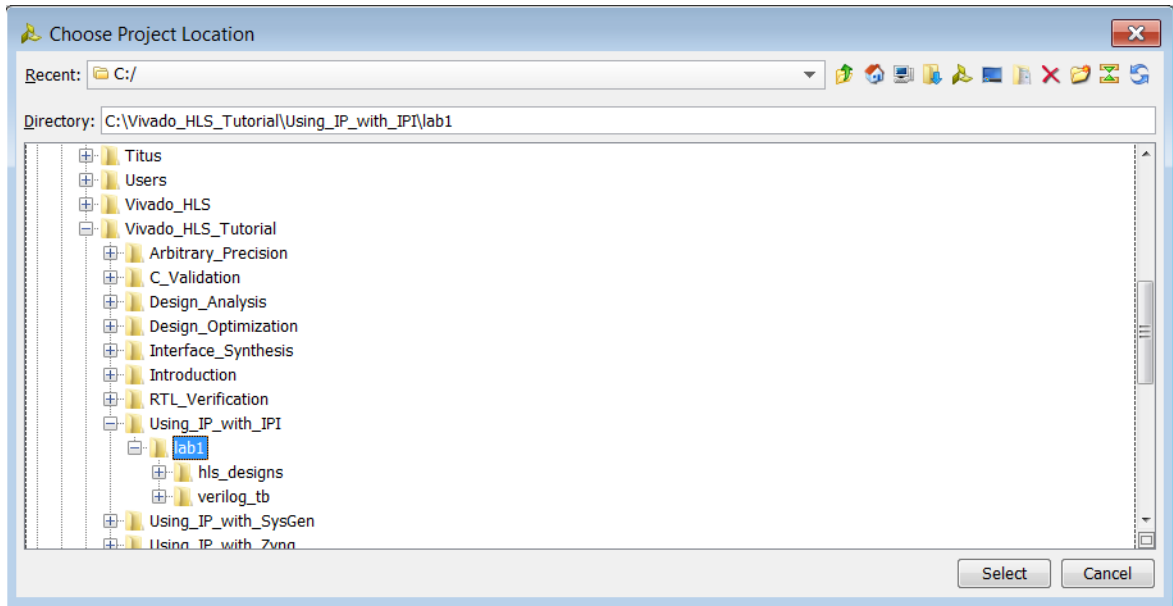

Figure 9-4: Path to the Vivado Design Suite Project
4. Click the ellipsis button to the right of the Project location text entry box and browse to and select the tutorial directory (Figure 9-4).